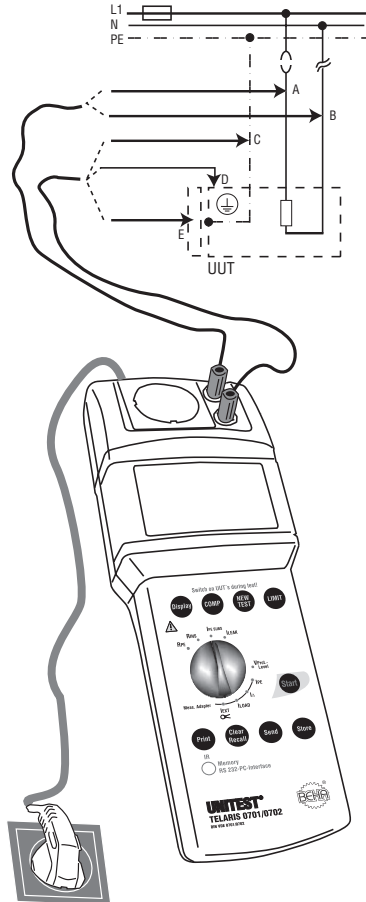

Figure 6.10: Measuring the substitute leakage current for fixed installed appliances or appliances not equipped with a mains plug.
- ▶ Connect the UNITEST TELARIS 0701/0702 via the mains plug (1) to a functional and correctly wired and grounded mains socket.
- ▶ Turn the 'Measurement function' selection switch (15) to position 'IPE SUBS'.
- ▶ Connect the UUT PE connection to the blue 'PE' socket (5), in compliance with C in Figure 6.10.
For appliances of protection class II or III, additionally connect the 'PE' socket (5) to all touchable, conductive casing parts of the UUT, in compliance with D, E in Figure 6.10.
- ▶ Connect the 'L/N' socket (4) to all active connectors of the UUT, in compliance with A, B in Figure 6.10.
- ▶ Press the key "Start" (9). The unit symbol which is blinking on the display is an indication for the active measurement procedure.
- ▶ Read the measurement value from the LC display (6). If the limit value display is active, the symbol 'LIMIT' (21) indicates that the limit value has been exceeded.